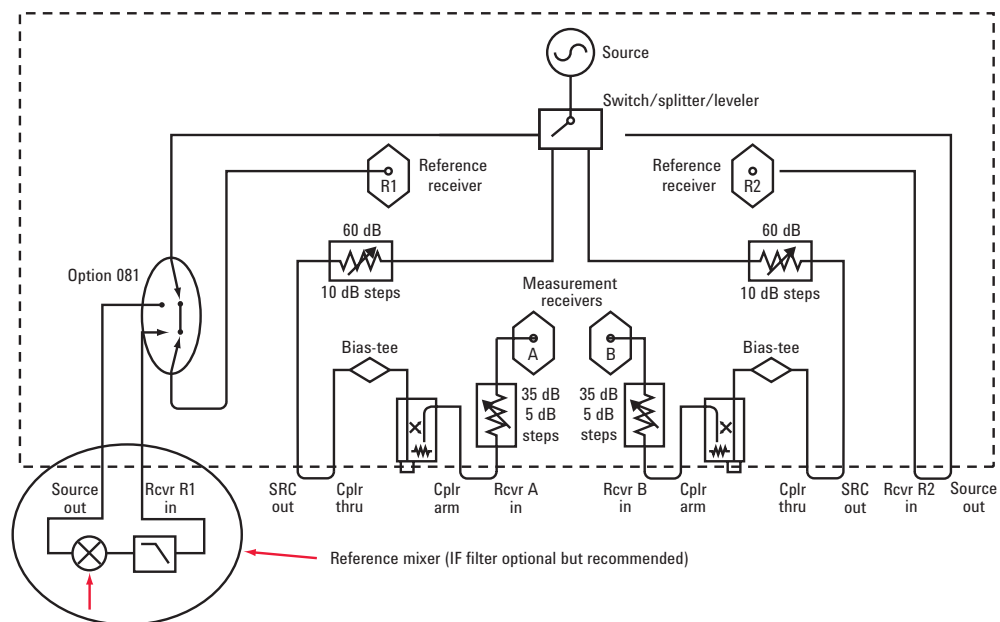

Figure 1. A reference mixer can be thought of as a component of the test system.
**Reference mixer:** The purpose of the reference mixer is to provide a phase reference for the measurements. The reference mixer is connected in the reference receiver path of the network analyzer, between the “source out” and “receiver R1 in” ports, as shown in Figure 1. The reference mixer can be considered part of the test system setup, like the network analyzer or test cables. The reference mixer does not need to be moved, connected, or disconnected during the calibration or measurement process; it remains in place all the time. The reference mixer is switched in and out of the measurement path, as needed, by the firmware. See the switch labeled Option 081 in Figure 1. As explained in the Reference Mixer Attributes section, there are very few requirements on the reference mixer.